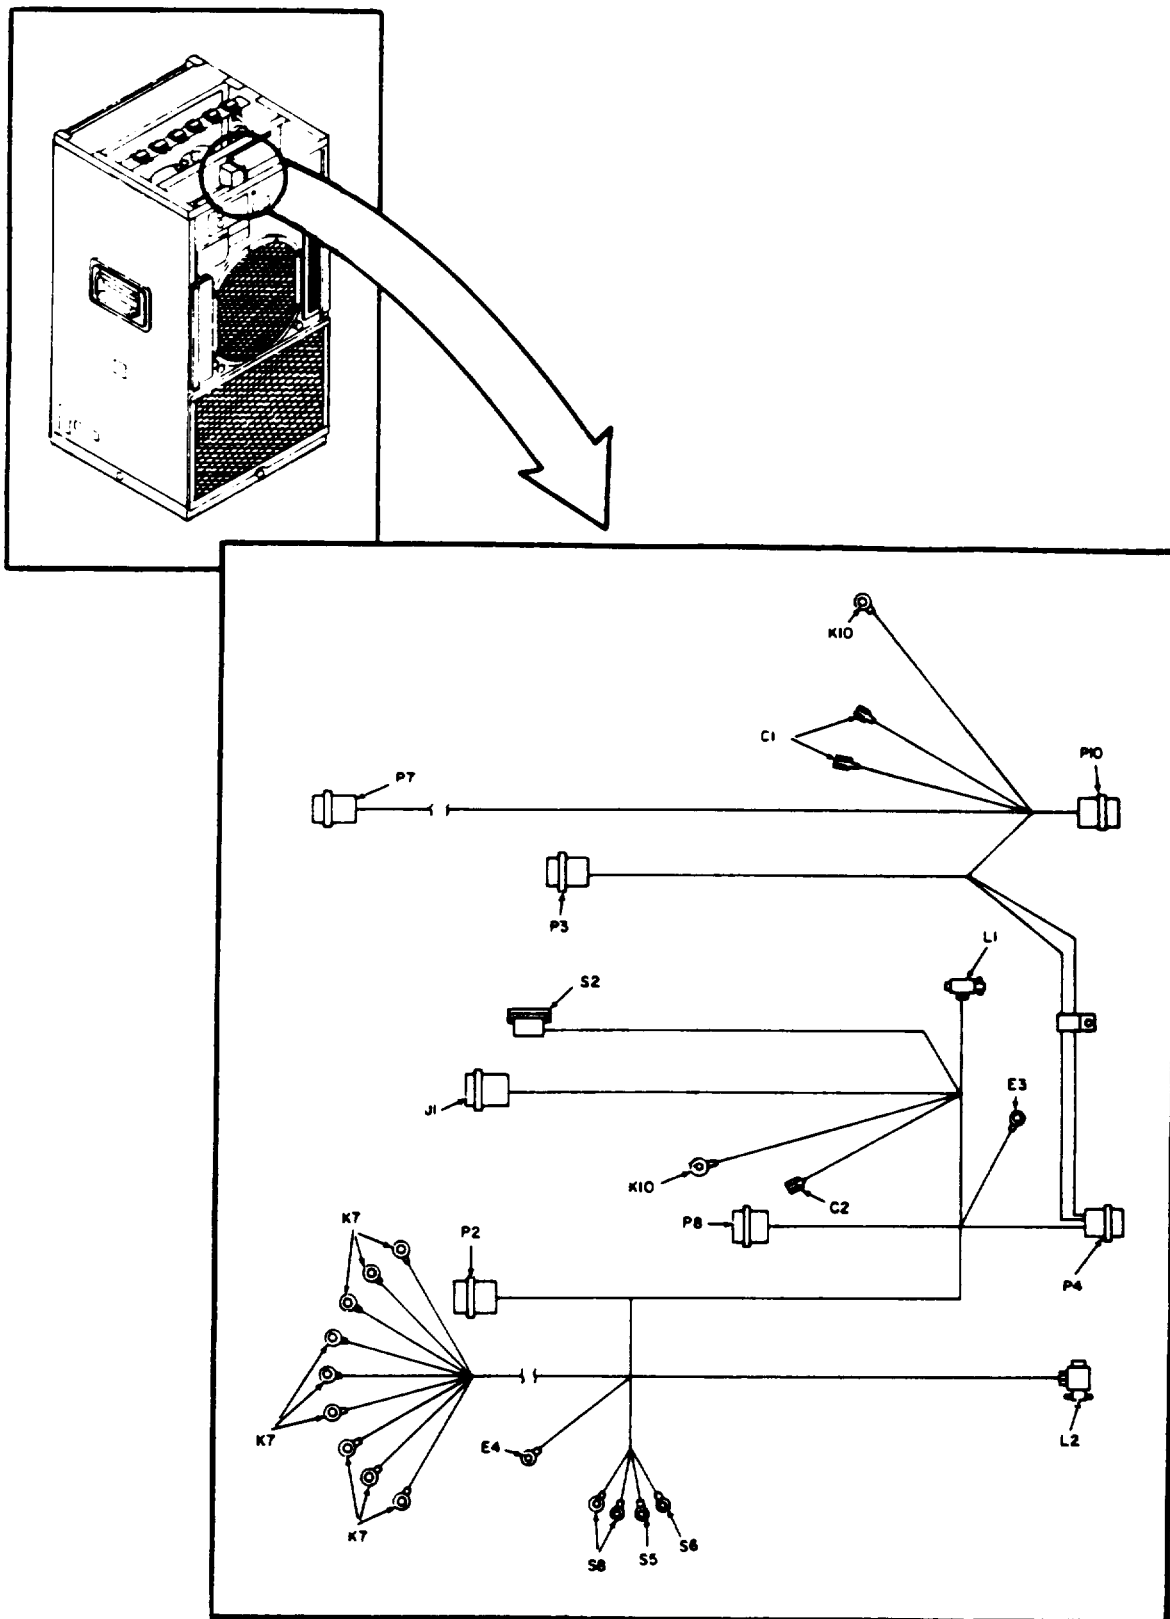

Figure 4-34. Wiring Harness (Main).
**a. REMOVAL. See Figure 4-34.**